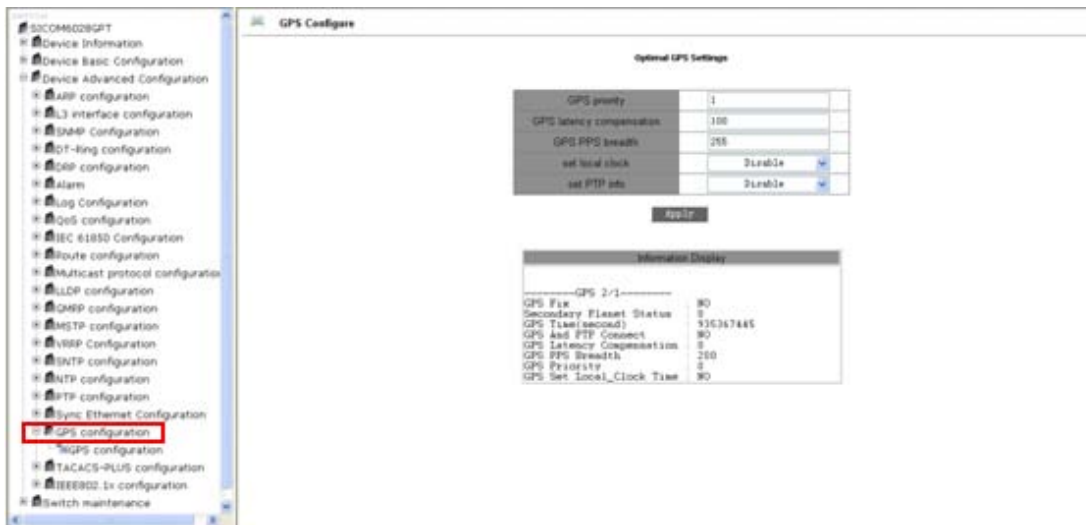

Figure 24 GPS Configuration Interface
2. Input the IP address of the current switch in web browser, the default IP is **192.168.0.2**. The Web interface access screen will appear as shown in Figure 23 (Take SICOM6028GPT for example); Enter the Web management page as shown in Figure 24 with default user name “**admin**” and password “**123**”.
3. As shown in Figure 24 below, there is a navigation tree menu on the left side; click Gps configuration (in red)→Gps configuration, and the Gps configuration interface will appear on the right; you can make and search for GPS configuration on upper and lower side of the Gps configuration interface separately. Refer to Table 4 for the description of the current GPS configuration information.